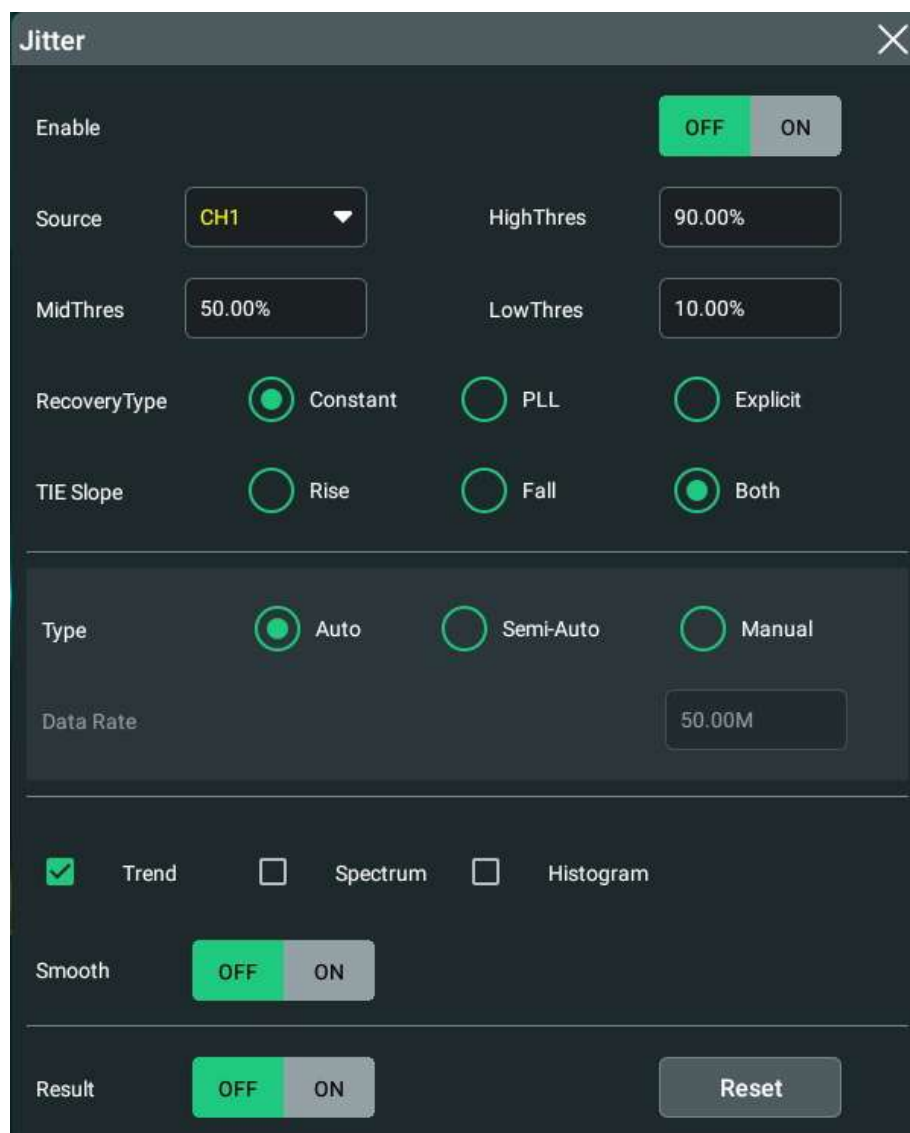

Figure 14.1 Jitter Setting Menu
- Click or tap **Setting**, then the jitter diagram menu is displayed, as shown in *Figure 14.1*.